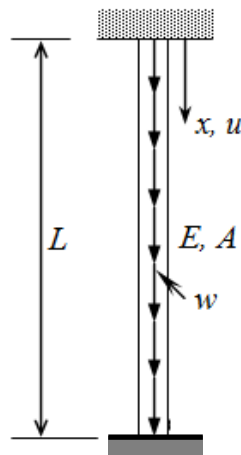

Figure 1
- (1). (a). Derive the governing differential equation for the linear elastic bar problem shown in **Figure 1** where, E : elastic modulus, A : cross-sectional area, w : uniformly distributed load per unit length. Next, using the derived governing differential equation, obtain the expression of axial displacement, u for the linear elastic bar problem. Both ends of the bars are fixed.